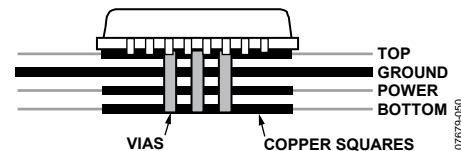

Figure 64. Exposed Pad Layout Example, Side View
- A copper layer equal in size to the exposed pad should be on all layers of the board, from top to bottom, and should connect somewhere to a dedicated copper board layer (see Figure 64).